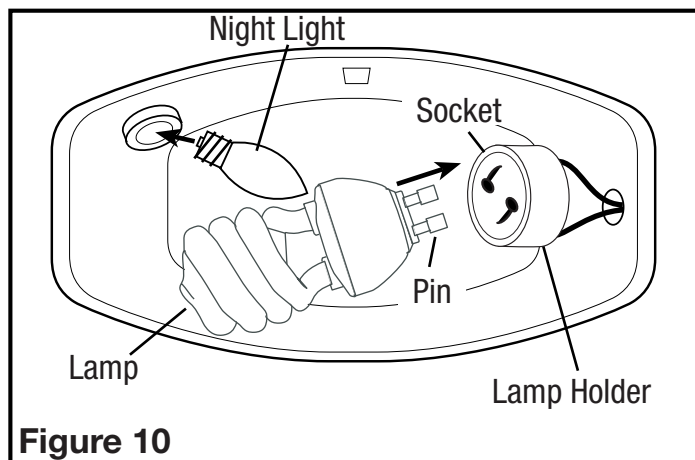

Figure 10
- Install the included 26 watt fluorescent lamp into the lamp holder by lining up the pins on the lamp base to the socket of the lamp holder and turning the lamp body clockwise until the lamp snaps into place and is firmly seated in the lamp holder. Install a 4 watt maximum type C7 (candelabra base) night light (not included) into the side lamp holder (**Figure 10**).